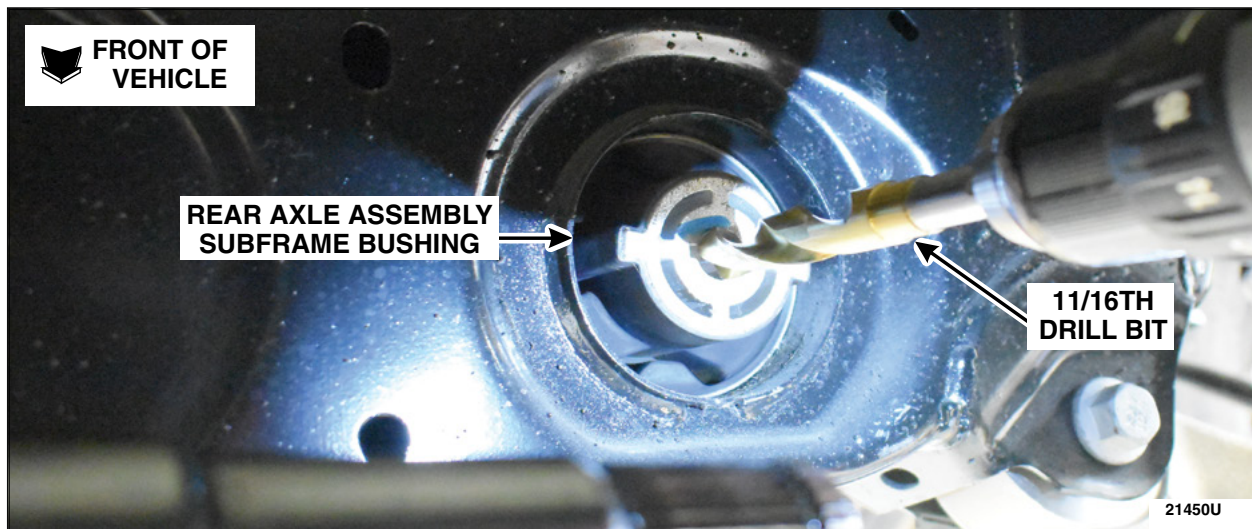

FIGURE 15
23. Using an 11/16th or larger drill bit drill out the rear axle assembly subframe bushing bolt hole. See Figure 15.